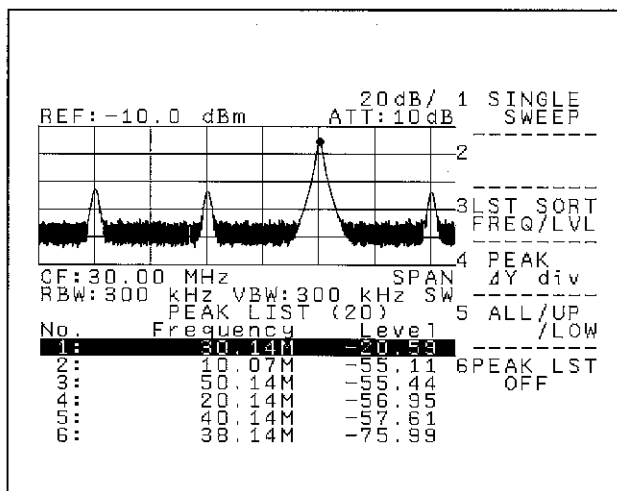

Figure 7-29 Peak List 1
- When this key is pressed, the single sweep mode is set and the peak list is displayed. Refer to Figure 7-29.